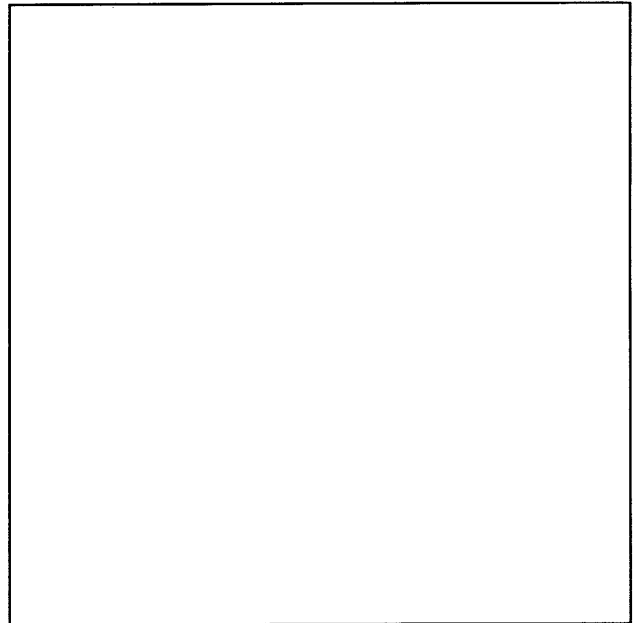

Figure 2
9. Take the left 18 1/2"x48" piece of upholstery (2) and position it against the top of the left fender, with the grey cloth up. Ensure that the bottom edge of the upholstery is against the operator foot platform and the long straight edge is 1" from the outside of the fender at the bottom. Cut the upholstery to conform to the shape of the fender. Glue the upholstery to the fender. (see Figure 2)
fitting (3) into the 1 1/4"o.d. splicer (4). REMEMBER to use a water sealant material around the threads of the fitting. Connect each end of the splicer to one end of the hose using the HS-20 hose clamps provided. (see Figure 2)